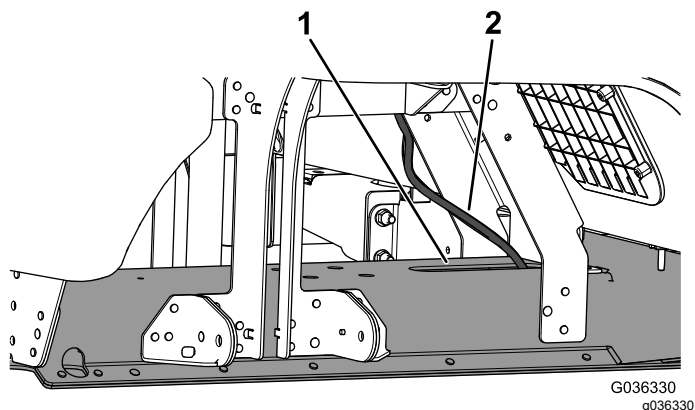

Figure 7
- 5. Route the kit hose through the opening in the top of the frame channel (Figure 7).